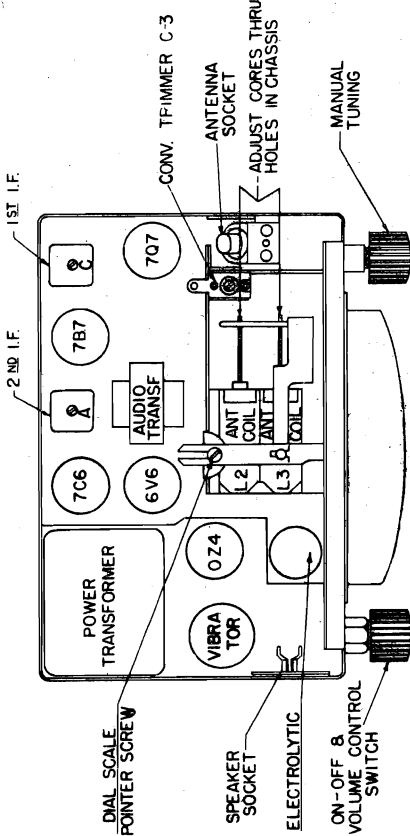
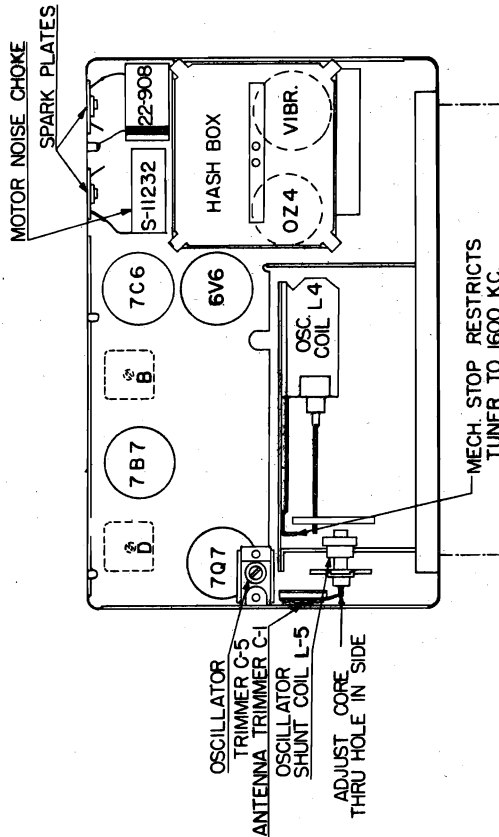

Fig. 7. Top View of Chassis
Fig. 8. Bottom View of Chassis
- 6—Adjust oscillator trimmer C-5 (Fig. 8) at 1675 Kc.
- 7—Adjust converter trimmer C-3 and antenna trimmer C-1 (Fig. 7 and 8) for maximum output reading.
- 10—Adjust oscillator core L-4 (Fig. 8) to scale at 1200 Kc.
- 11—Adjust the two antenna cores L2 and L3 (Fig. 7) for maximum output reading. Do not adjust trimmers.
- 13—If necessary, "rock in" shunt oscillator core L-5 (Fig. 8) for maximum output reading. This should be done only as a last resort, as the core has been set and sealed and should not require adjustment.
- 4—Adjust I.F. slugs A, B, C and D (Figs. 7 and 8), in the order named for maximum output. Repeat the operation to assure accurate alignment.
- 4—Adjust oscillator trimmer C-5 (Fig. 8) for maximum response.
- 7—Adjust converter trimmer C-3 (Fig. 7) and Ant. trimmer C-1 (Fig. 8) for maximum response.
- 8—If dial calibration is off after making above adjustments, a correction can be made by turning eccentric screw at fulcrum of dial pointer. (Fig. 7).